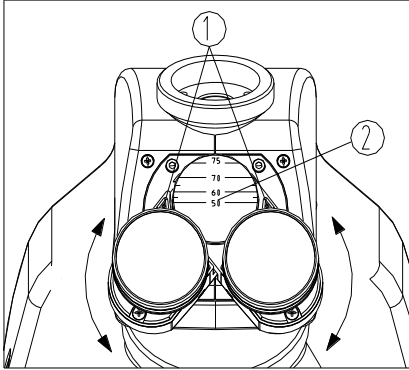

Fig. 13
1. When observing with two eyes, hold the base of the eyetubes and rotate them around the axis until there is only one field of view. "0" mark (1) on the eyetube base points to the scale (2) of interpupillary indication, means the value of interpupillary distance (see Fig. 13).